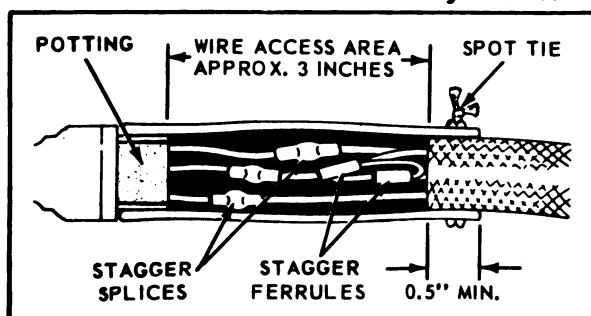

Figure 12-10. Protective Boot and Boot Area
- a. Removal and installation of protective boots. These boots are used on the exposed wire access area between the rear of a potted connector and the end of the braided bundle jacket. (See figure 12-10).